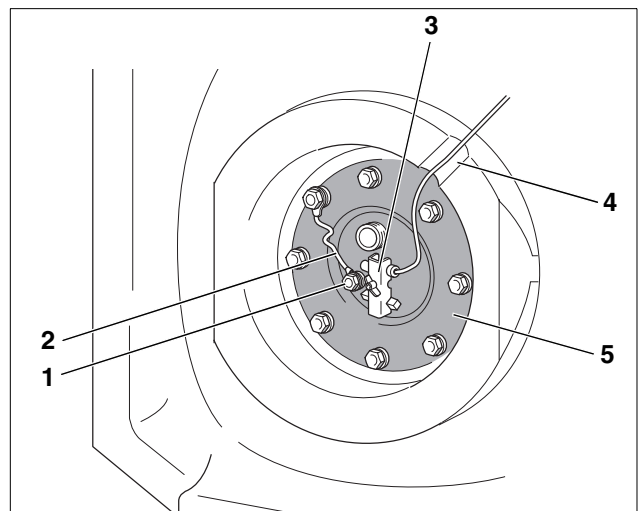

Fig. 12 Testing the Magnesium anode rod
- Guide the sensor wiring through the knock-out in the tank insulation (Fig. 12, **Item. 5**) to the clean-out cover.
- Slide the sensor under the strap-on clip (Fig. 12, **Item. 4**) on the clean-out cover and tighten this clip.
- Make sure that the ground cable (Fig. 12, **Item. 2**) of the magnesium anode rod (Fig. 12, **Item. 1**) is securely tightened to one of the clean-out cover bolts.